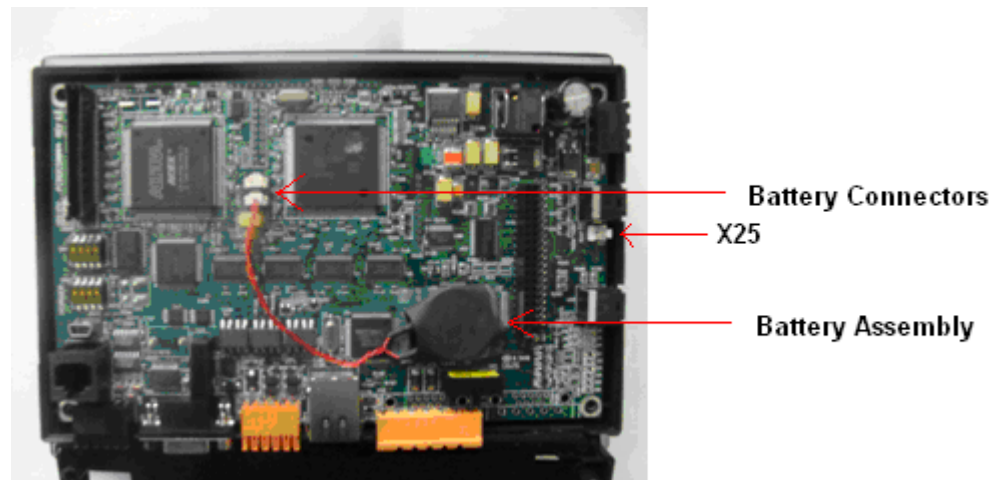

Figure 24
4. Remove the X25 connector (Figure 24).
5. Note there are two connectors (Battery Connectors in Figure 24) on the PCB that can accommodate the battery connector.